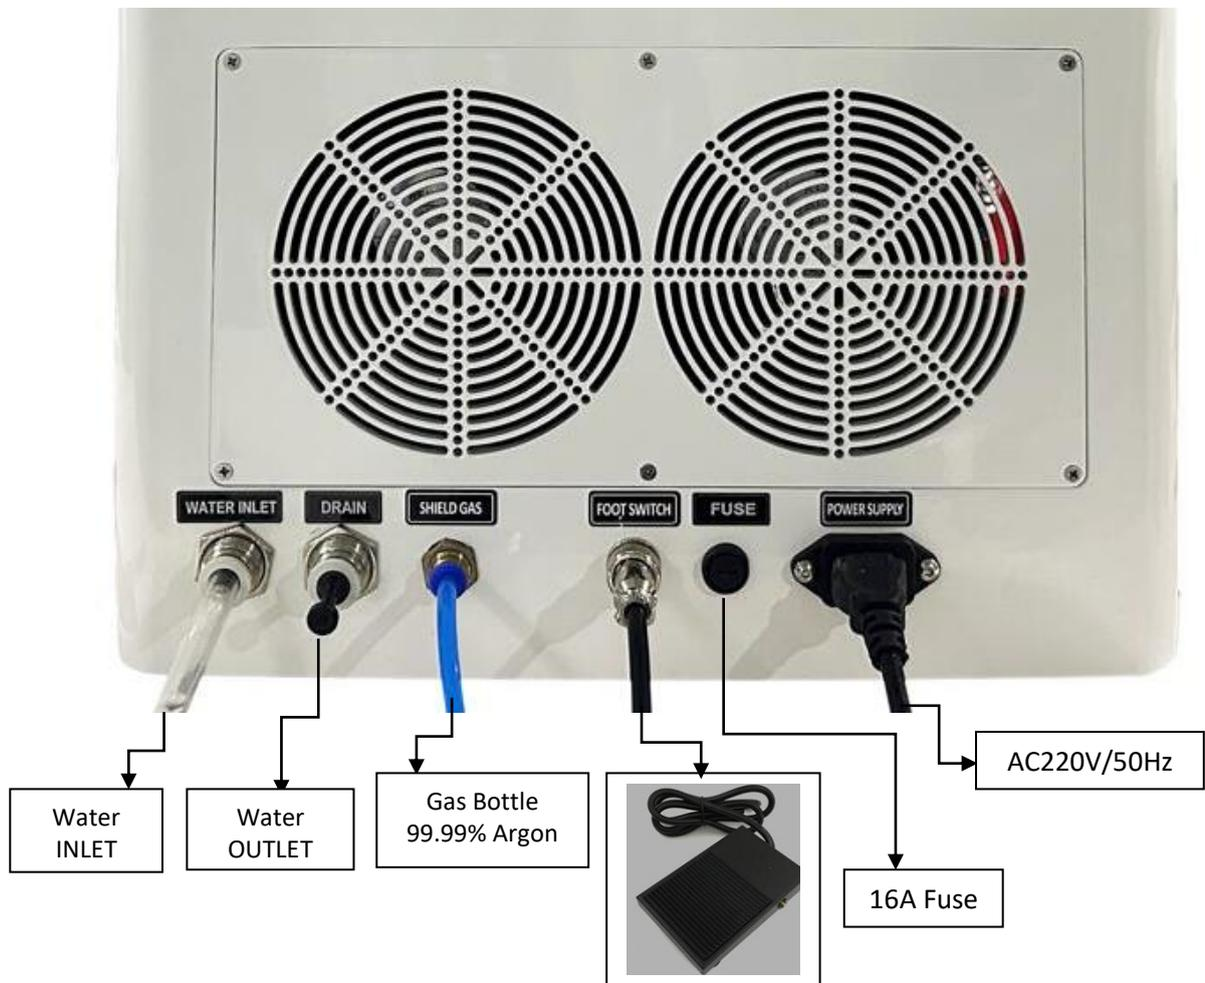
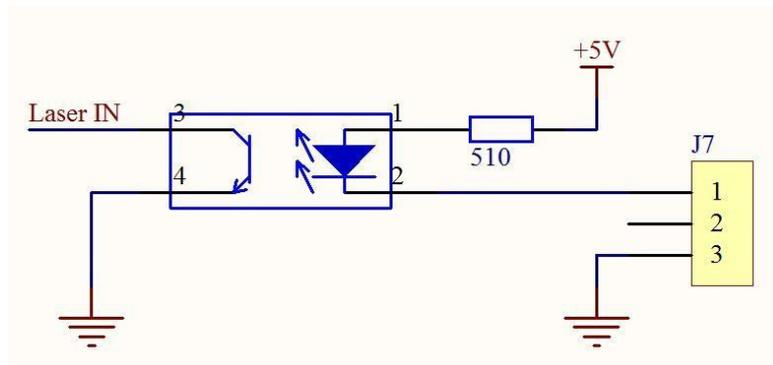

Figure 4-1
Figure 4-2
2. Insert the power cable correctly into the POWER SUPPLY jack and connect it to the mains (see Figure 4-1).
3. Connect the foot switch correctly (see Figure 4-1). Internal schematic diagram of the control signal (Figure 4-2)
4. Insert the dispensed hose into “WATER INLET” socket of the machine and place the other end in the spare purified water to prepare for water injection (see Figure 4-1).